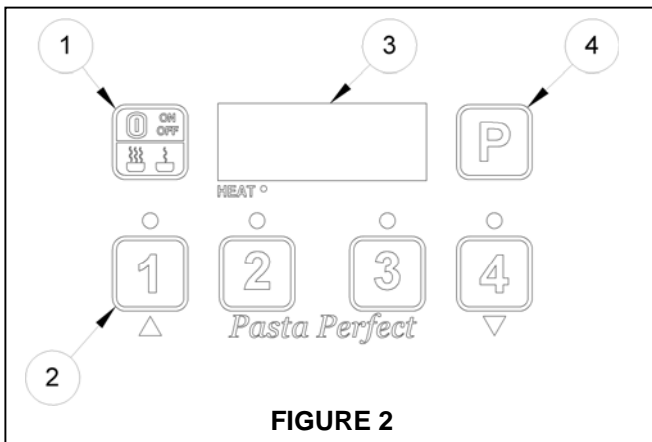

FIGURE 2
3. Press the ON/OFF (1) button once to turn on the appliance. The appliance is now on and heating the water in the cook tank, see Figure 2.
4. Toggle the ON/OFF (1) Button once to switch between Boil and Simmer Mode, see Section 2.4.